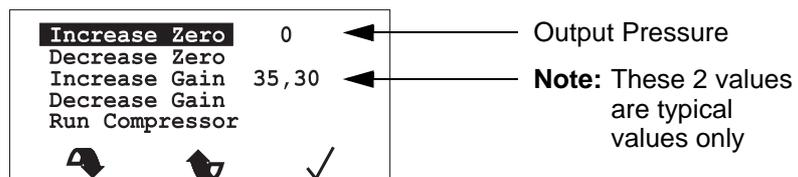

Figure 23 - LCD Display - Run Compressor
- 7.6 Using the **Down** and **Up** buttons below the LCD display (Refer to Page 5, Section 4), scroll down the list of options to **Calibrate PT**, and select it using the ✓ button below the LCD display. A new list of options will appear (Refer to Figure 23).